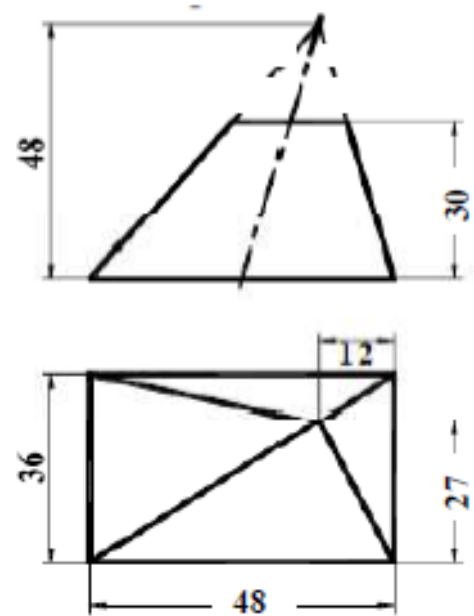

Figure Q3
- (a) Two views of an oblique truncated pyramid are shown in Figure Q3. Reproduce the views showing the true shape of the plan. From the views drawn, construct the surface development of the truncated pyramid taking the seam line to be the longest edge.